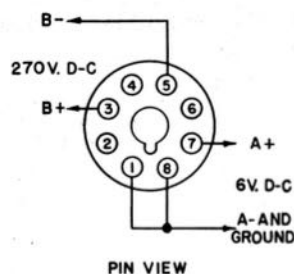

Figure 7. D-C Power Plug Connections
b. D-C Operation.- To operate the receiver from external batteries delivering 6-volts at 4.5 amperes and 270-volts at 145 milliamperes (or from a vibrator supply of like capacity), connect plug PL_2 as shown in figure 7 and insert it in socket SO_1 in place of the jumper plug used for a-c operation.